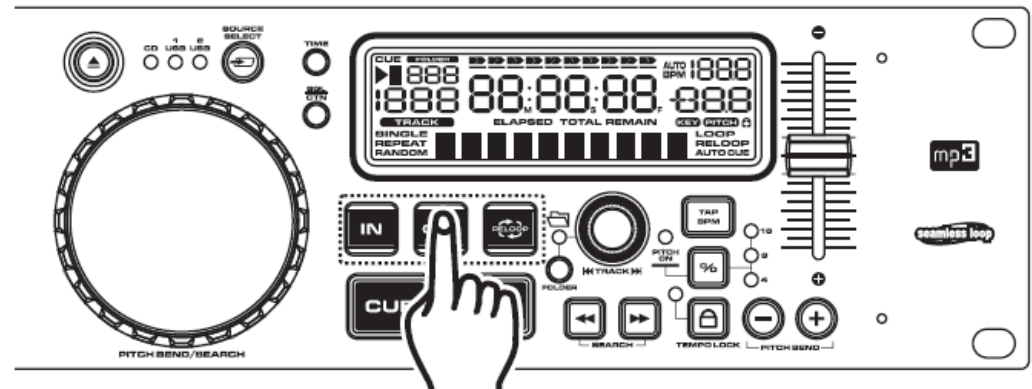

Figure 23
Press the OUT button (17) to set the ending point for your SEAMLESS LOOP (**Figure 23**). The IN and OUT buttons will stay lit indicating a SEAMLESS LOOP is playing. Press the OUT button again to stop the Loop.